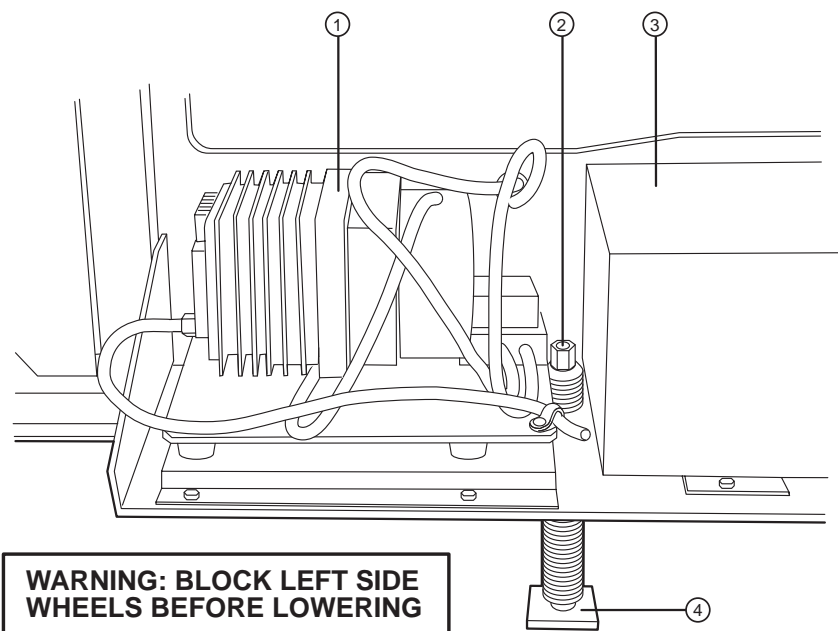

Figure 1-8 Using the jack screw and plate for raising the imagesetter (right side).
24. Position the jack screw in the access hole between the vacuum pump and the electrical box. Refer to Figure 1-8.
- ①—Pump. ②—Jack screw. ③—Electrical box. ④—Jack screw (dimpled) plate.
25. Position the jack screw (dimpled) plate below the access hole and turn the jack screw until the unit begins to lift. Refer to Figure 1-8.